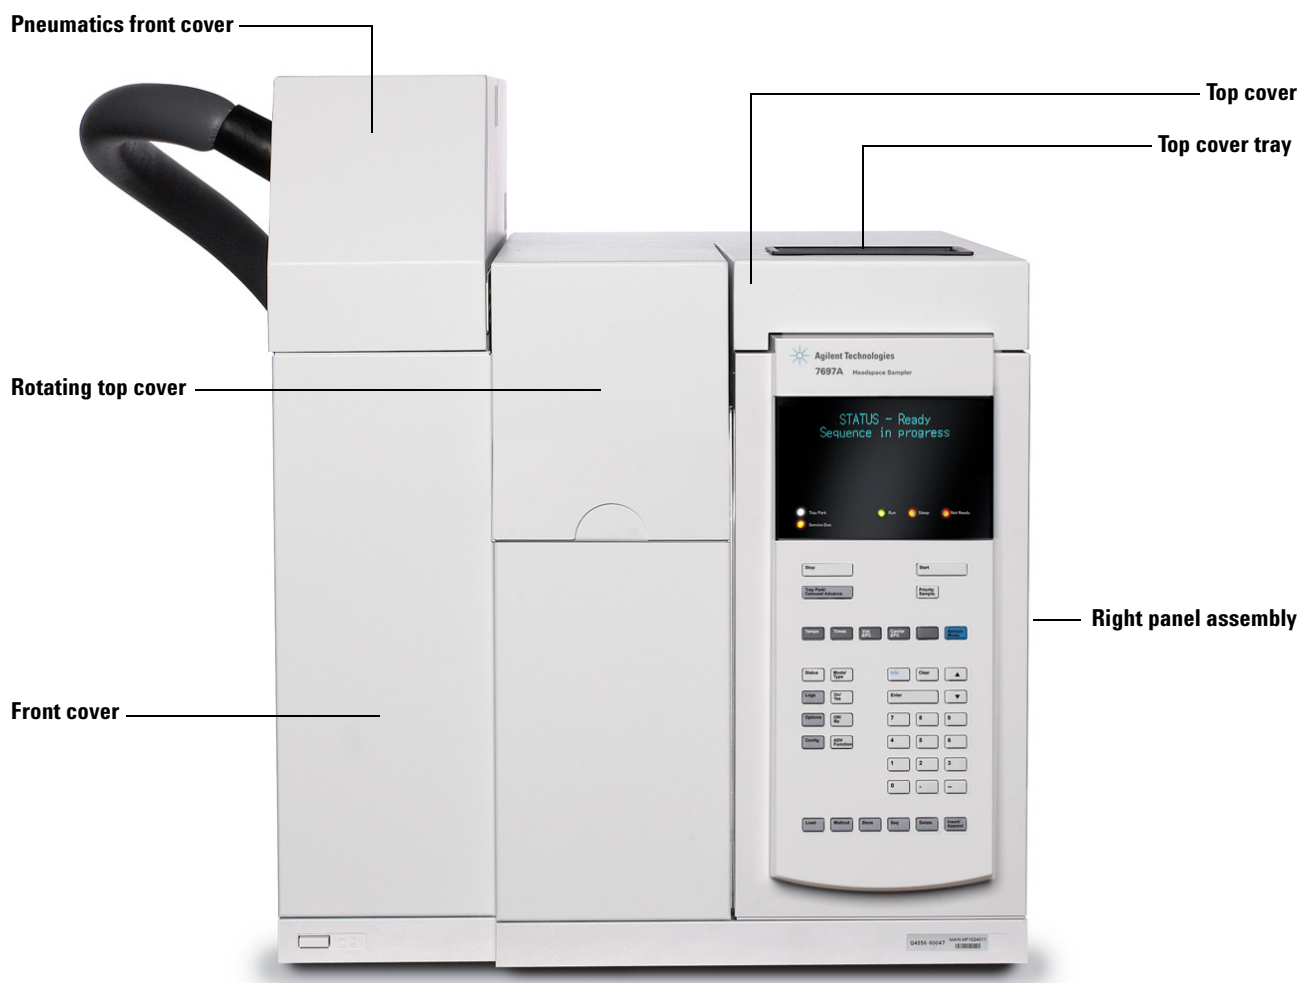

Figure 4 Covers to remove from the 12 vial model headspace sampler
Remove the covers shown in Figure 4 from the headspace sampler.
- 2 Remove the top cover. (See Figure 4.)
- 3 Remove the front cover. (See Figure 4.)
- 4 Remove the right panel assembly. (See Figure 4.)
- 5 Remove the pneumatics front cover. (See Figure 4.)